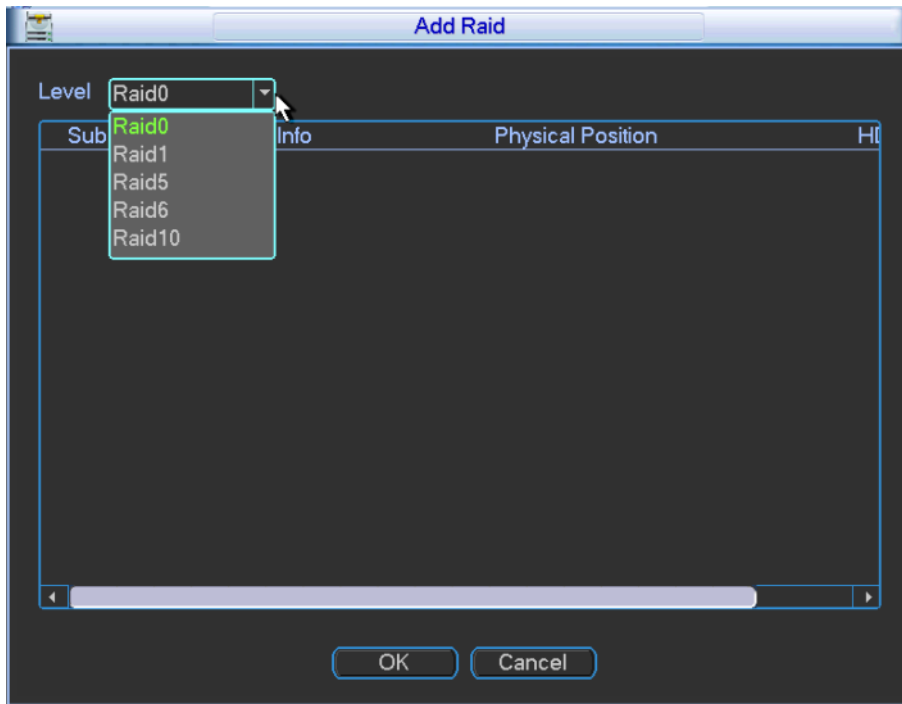

Figure 3-79
Step 1 Click "Add". The system displays "Add Raid" interface, as shown in Figure 3-79.